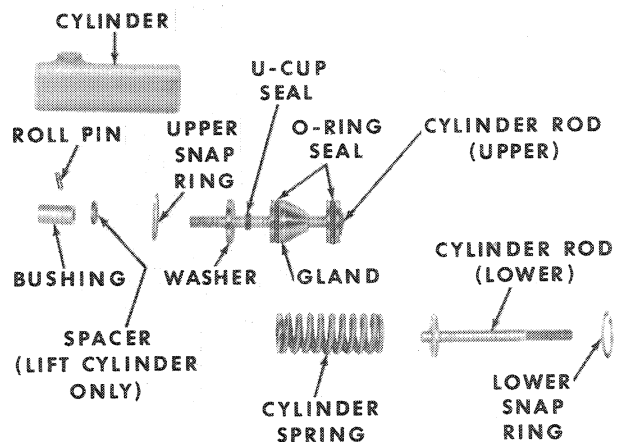

Figure 18
4. Remove the bushing, Figure 18, from the cylinder rod (upper) by removing the roll pin with a suitable punch and hammer.
**IMPORTANT:** The spacer, Figure 18, located between the cylinder rod bushing and the cylinder is utilized only on the lift cylinder and is the only difference between the lift and bucket cylinders.